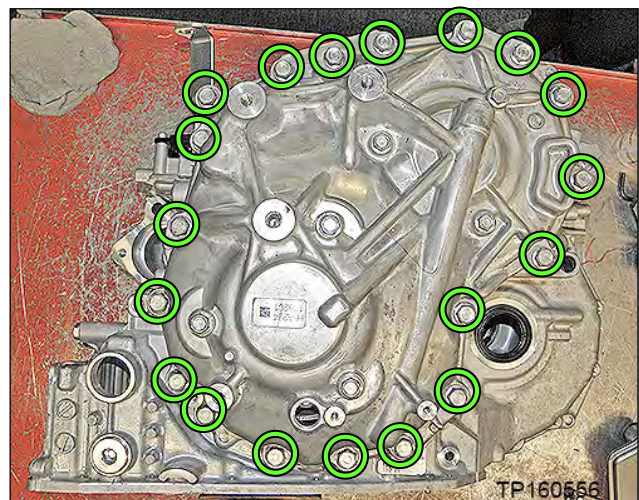

Figure 69
50. Remove the nineteen (19) side cover fixing bolts (Figure 69).